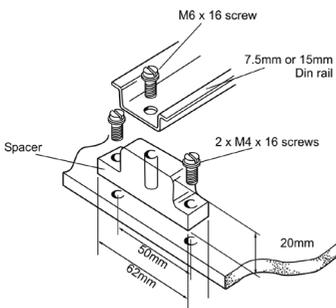

Fig. 5 Mounting the ISP7000 insulated spacer
**Note:** The overall earthing system is critical to effective operation of the surge protector. This may require re-routing of the system earthing and the installation instructions should be checked carefully. If the system requires the DIN rail to be isolated from the mounting plate then use ISP7000 insulating spacers (see Fig. 5).